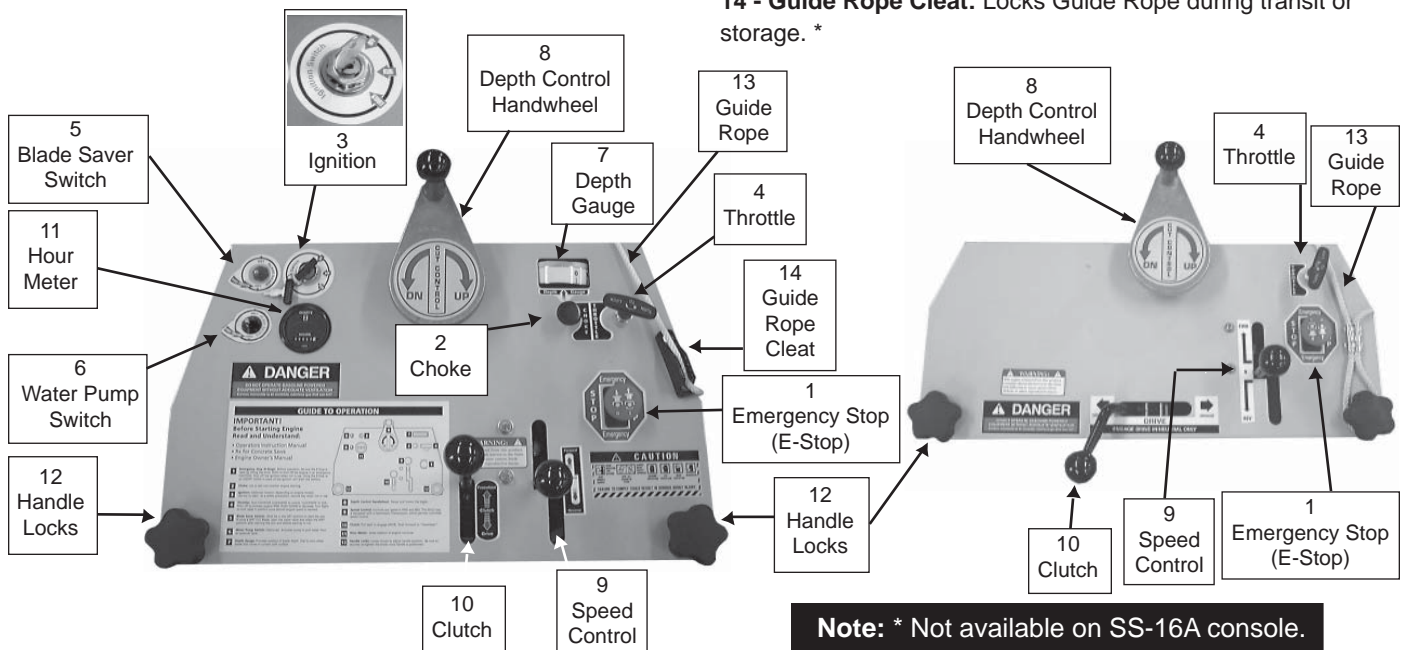
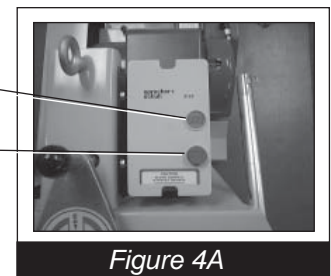

Figure 2
Figure 4A
- Locate and be familiar with all engine and saw controls (*Figure 2*).
- Turn Engine Ignition key to START. After engine starts, leave Engine Ignition in the RUN position. Ignition position on saw will vary depending on engine. (Review *Figure 2*)
- Be sure the “STOP” (red) button is depressed (*Figure 4A*). Hook up the electrical power source by plugging into the connector provided. If the cord does not mate with the connector, consult a qualified licensed electrician before continuing. Be Sure the equipment is properly grounded.
- After completing the previous step, to start the motor, be sure the Emergency Stop (E-Stop) is in the UP position (*Figure 2*). Press the “START” (green) button (*Figure 4A*).